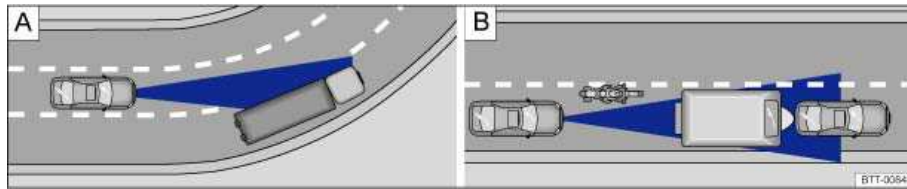

Fig. 277 (A) Driving in a curve. (B) Motorcycle travelling ahead outside of the sensor range.
When driving into a curve and driving out of a long curve, the radar sensor may react to a vehicle in the next lane $\Rightarrow$ fig. 277 (A) and cause your vehicle to brake. You stop the braking process by pressing the accelerator pedal.